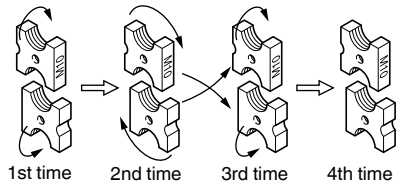

Fig. 19
(3) Before attaching
- ① There are four edges on the cutter. As shown in **Fig. 19**, by changing the position of the edge it is possible to use the blade four times.